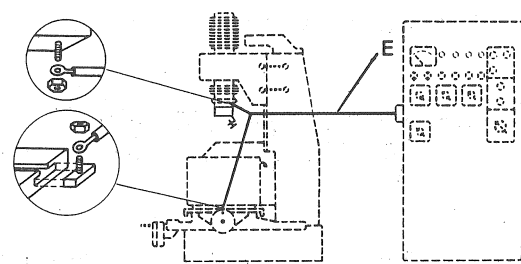

Fig 20
3. Connect the machining cable (E) to the machine, the black lead to the magnetic chuck, the yellow lead to the table (fig. 20).